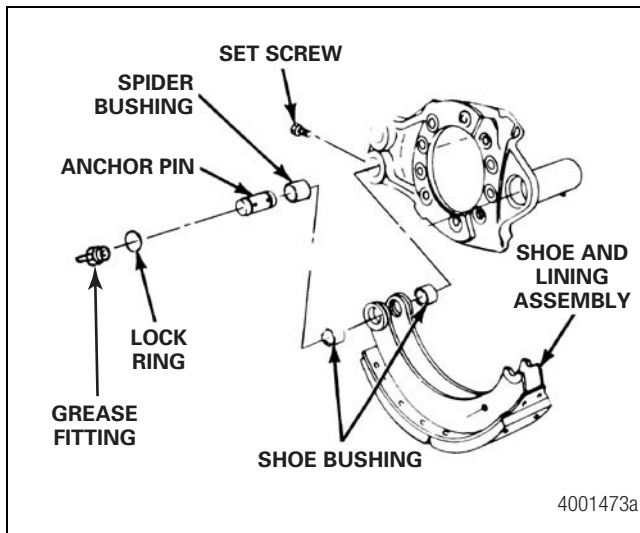

Figure 5.3
- A. For a straight anchor pin with a lock ring and set screw, remove the lock ring from the top of the anchor pin. Figure 5.3.
- B. Remove the set screw for the anchor pin from the side of the spider. Figure 5.3.